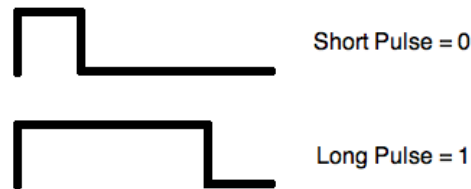

Figure 8.2: Example of long and short pulses.
1. *High Level Preparation:* Section 8 requires the design and implementation of two different sections of digital logic. One section will be the transmitter logic and the other is the receiver logic. The transmitter logic will be programmed onto one of the d_logic boards with three buttons being used as inputs and the infrared LED as the output. The signal from the buttons will need to be encoded into long and short pulses shown in Figure 8.2. For an application like this, the short pulse will represent a 0 and the long pulse will represent a 1. This will enable the receiver to decode the signal into 1's and 0's. The receiver will consist of the infrared receiver as an input and three outputs to control the TekBot motors using Section 3.